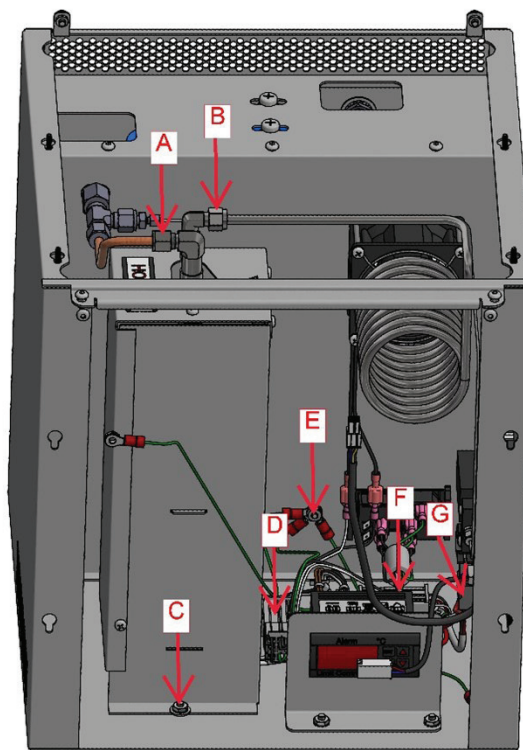

Figure 9 - ZAG Internals with Cover, Internal Heat Shield, and Front Bezel Removed
3. Referring to Figure 9, carefully remove the five (5) screws holding the heat shield in place to the chassis. Lift the heat shield out and set it aside.
4. Referring to Figure 9, using two wrenches (one as an anchor to hold the elbow), disconnect the catalyst module at the inlet and outlet fittings at the elbow (A & B Figure 9 & 10). **Leave both elbows on the module.**
5. Remove the washer and KEP nut (11/32) at the base of the module (C in Figure 9 & 10).
6. Disconnect the Molex connector (D in Figure 9 & 10) by holding down the tab and pulling the two connectors apart.
7. Remove the KEP nut from the ground connection at the back (E in Figure 9 & 10) and remove the ring terminal that is part of the catalyst module wiring harness.
- d. Plug in the 9-pin Molex connector to the mating connector at location D (Figure 9 & 10).
- f. Guide the compression nuts on to the elbows of the catalyst module at locations A & B (see Figure 9 & 10) at the top of the catalyst tower and tighten finger tight. Use the two wrenches (one holding the elbow) and tighten the compression nuts.
Communication failure (on display)	The cable connecting the LCD display PCB to the control PCB could be loose or defective. Unplug unit. Remove cover and front bezel and inspect cable “H” as shown in Figure 9. Check for loose wires. Unplug and reconnect cable. Consult technical support if problem continues.